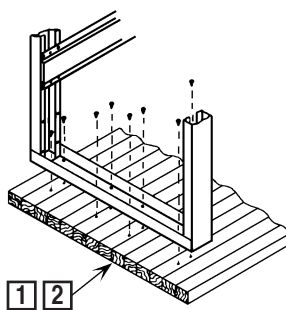

FIGURE 6
3. Place the leg weldment and stringer assembly upside down on the bench top. The stringer should be placed toward the back edge of the bench top. Position the leg weldment and stringer assembly so it is centered on the bench top and the legs are parallel to the ends of the bench. Use the leg weldments as templates and drill (8) 1/4" pilot holes x 1" deep for the lag screws at each end of the bench top. Fasten the leg weldment and stringer assembly to the bench top with (16) .312 (5/16") x 1" lag screws. See Figure 6. Lag screws are not furnished by manufacturer.